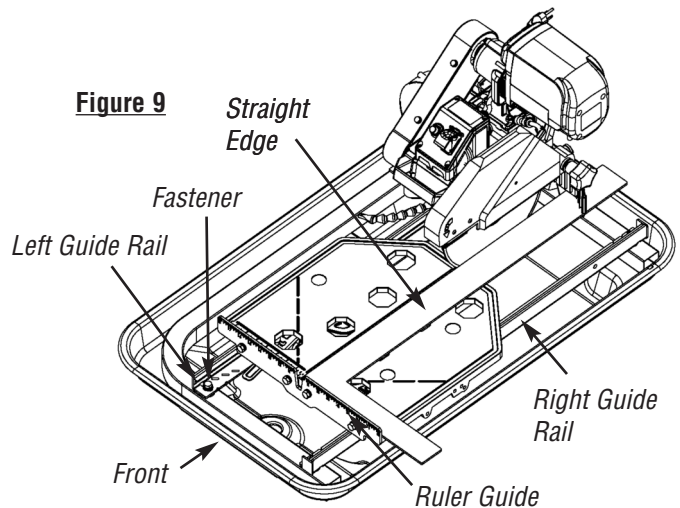

Figure 9
2. Place a straight edge (i.e. carpenter's square) on the cutting table as shown in *Figure 9*.
3. Loosen the left and right guide rails by loosening the fasteners found at the ends of the rail. *See Figure 9*. The left rail should be slightly loose, so there is not too much play during adjustments, but the right rail should move freely.